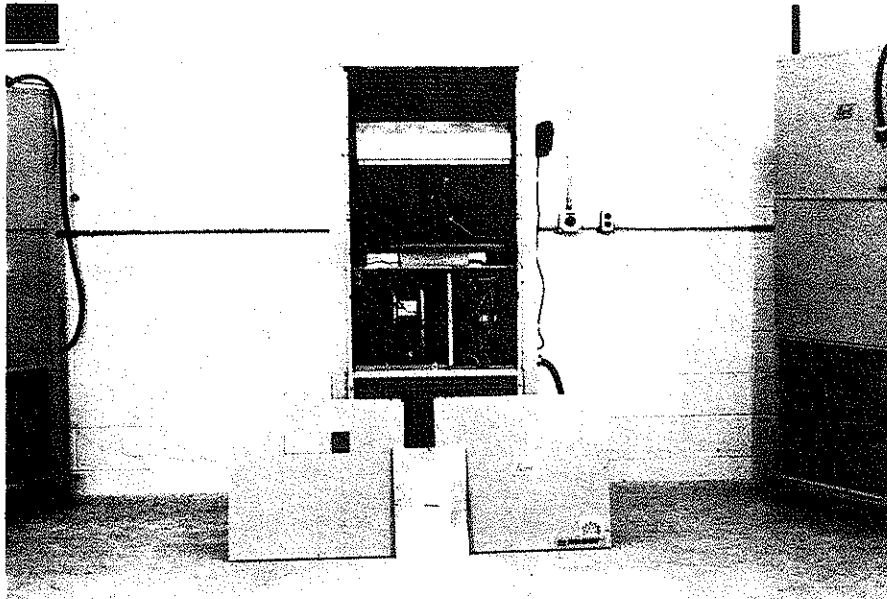

FIGURE 3
- 2.) REMOVE AND DISCARD THE EXISTING EXTERIOR BLOWER ACCESS AND SERVICE ACCESS PANELS ON THE BARD HIGH-BOY UNITS. (SEE FIGURE 3)
- 3.) REMOVE AND SAVE EXISTING UNIT RETURN AIR FILTER. IN THE EVENT SOME 2 & 3 TON UNITS ARE EQUIPPED WITH CONTROL MODULE OPTION, MOVE MODULE FROM TOP OF COMPRESSOR PARTITION TO BACK OF PARTITION TO ALLOW ROOM FOR ECONOMIZER INSERTION (SEE FIGURES 3 & 4). ACCESS TO THE MODULE CAN NOW ONLY BE MADE FROM INSIDE THE BUILDING BY REMOVING THE FILTER GRILL OR BY PROVIDING AN ACCESS PLATE IN THE RETURN AIR DUCTWORK.